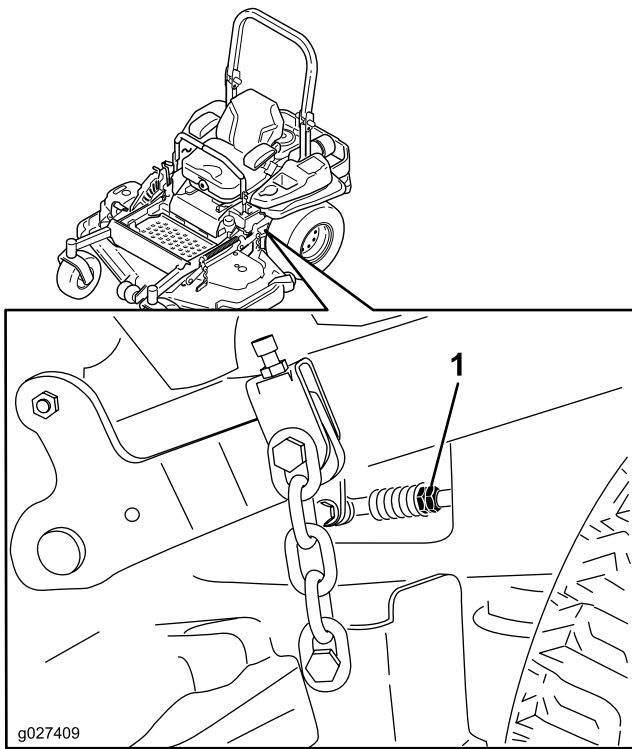

Figure 84
9. Adjust the pump-control rod lengths by rotating the double nuts on the rod in the appropriate direction until the wheels slightly creep in reverse (Figure 84).